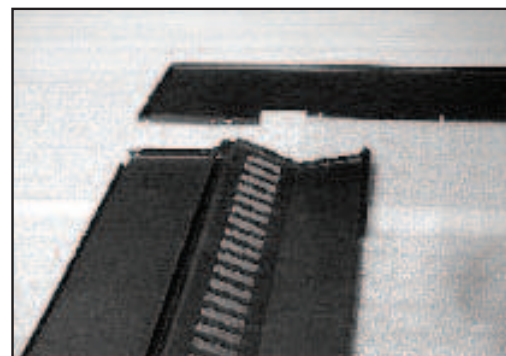

Figure 22.5
3. Stand assembly on end and attach and install (1) 8-32 x 3/8 inch screw through tab in side panel and curtain. **Figure 22.4**. Lay face down as shown in **Figure 22.5**.